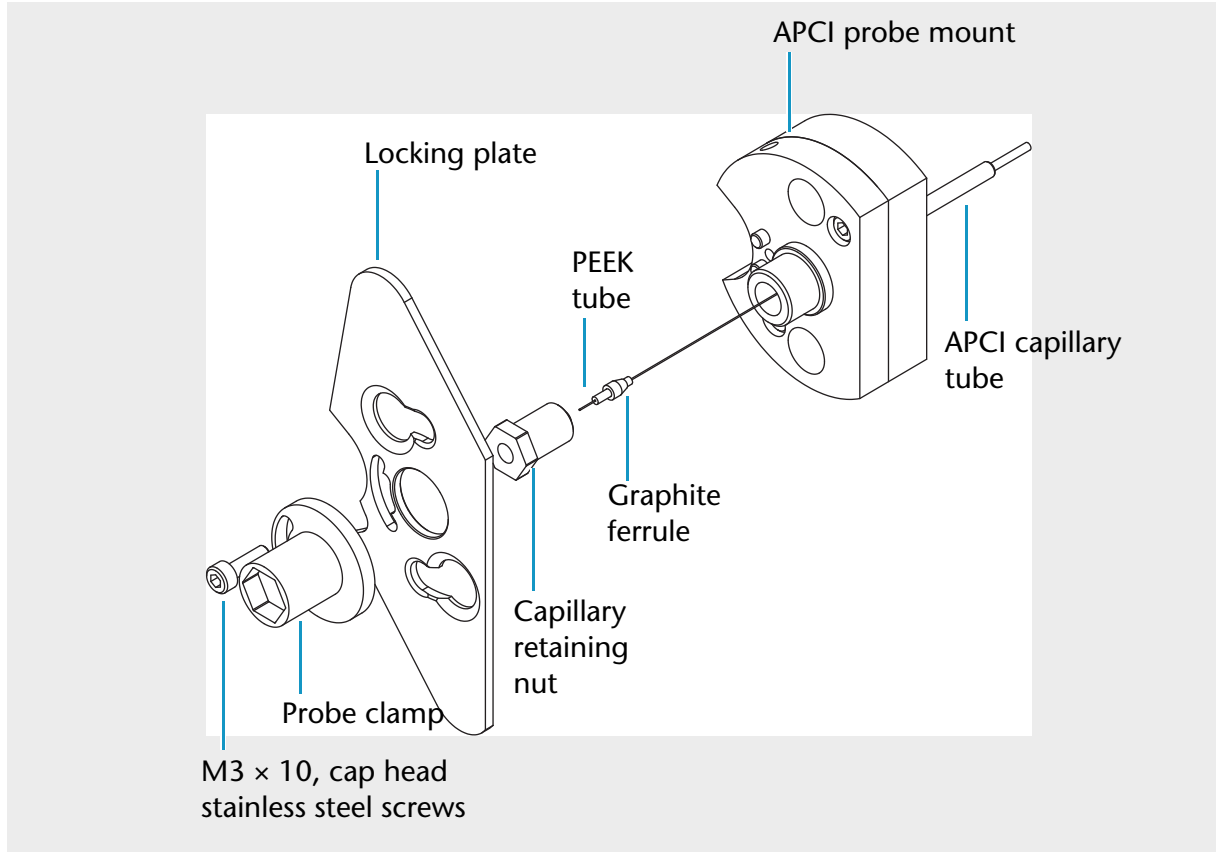

Fig. 48 View of partially disassembled APCI probe with capillary removed
1. Using a 2.5 mm Allen key, unscrew the M3 × 10 cap head stainless steel screw (part number A66552) from the probe clamp. See Figure 48.